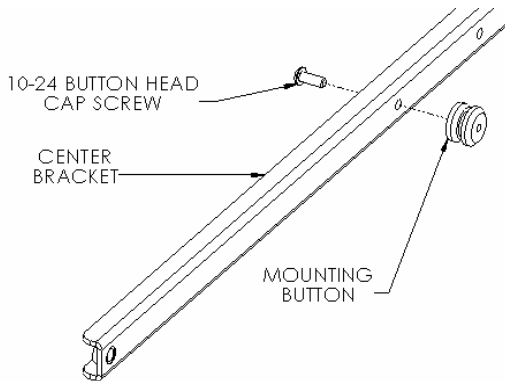
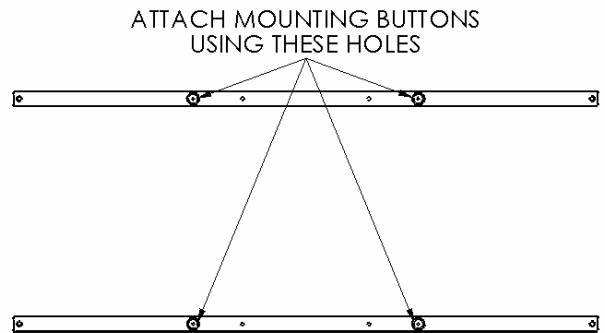

Figure 2
Figure 3
1. Using a 10-24 button head cap screw inserted from back side of bracket, secure mounting button, with chamfered hole of mounting button (larger surface) facing bracket, to center brackets (four places) (see Figure 2 & Figure 3).